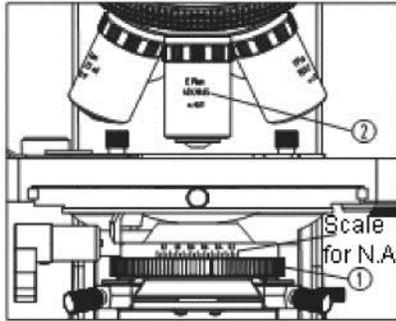

Fig. 30
Use of graduation: set the N.A. of the condenser to the 80% of the N.A. of objective ② (Fig. 30).